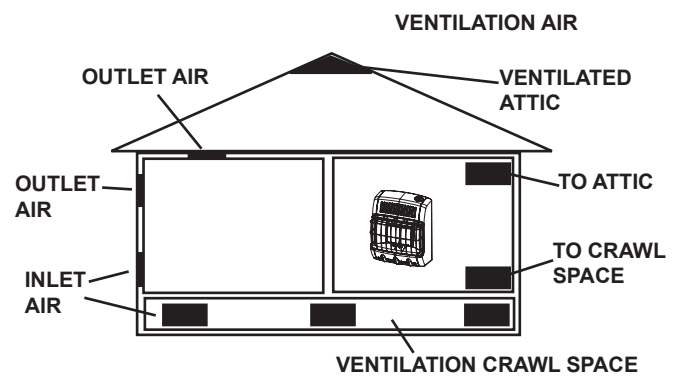

Figure 3.
- Vent room directly to the outdoors. See Ventilation Air From Outdoors (Fig. 3).